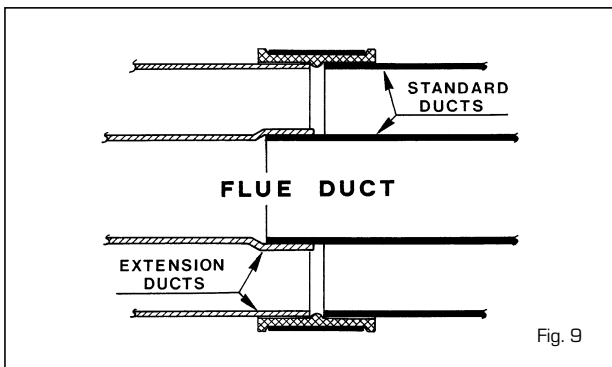

Fig. 9
- If an extension duct or ducts is/are to be used, the flue and air ducts should be joined before proceeding to the next section. The extension ducts should be joined to each other and to the standard ducts using the following procedure (fig. 9);